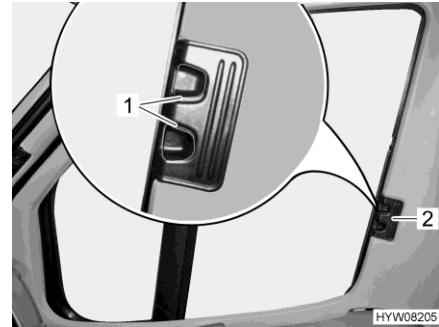

Fig. 42 Roman shade for the driver's / front passenger's window
- Use handle (Fig. 42,2) to push in the Roman shades for the driver's and passenger's window as far as possible.
- Allow the release handles (Fig. 42,1) to engage.